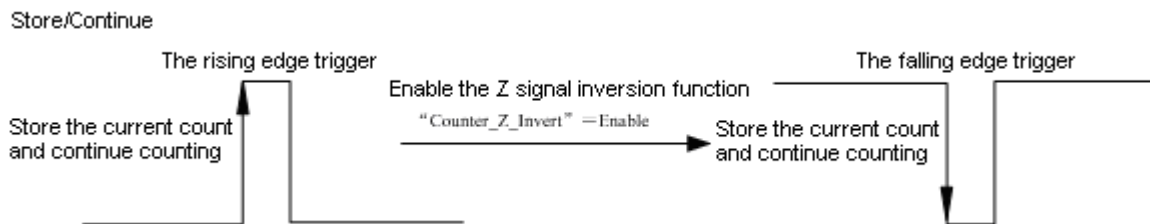

Figure 10.79: LK680 Z signal inversion
- After enabling the Z signal inversion, the trigger conditions for storing counts will be changed to as shown in Figure 10.79.